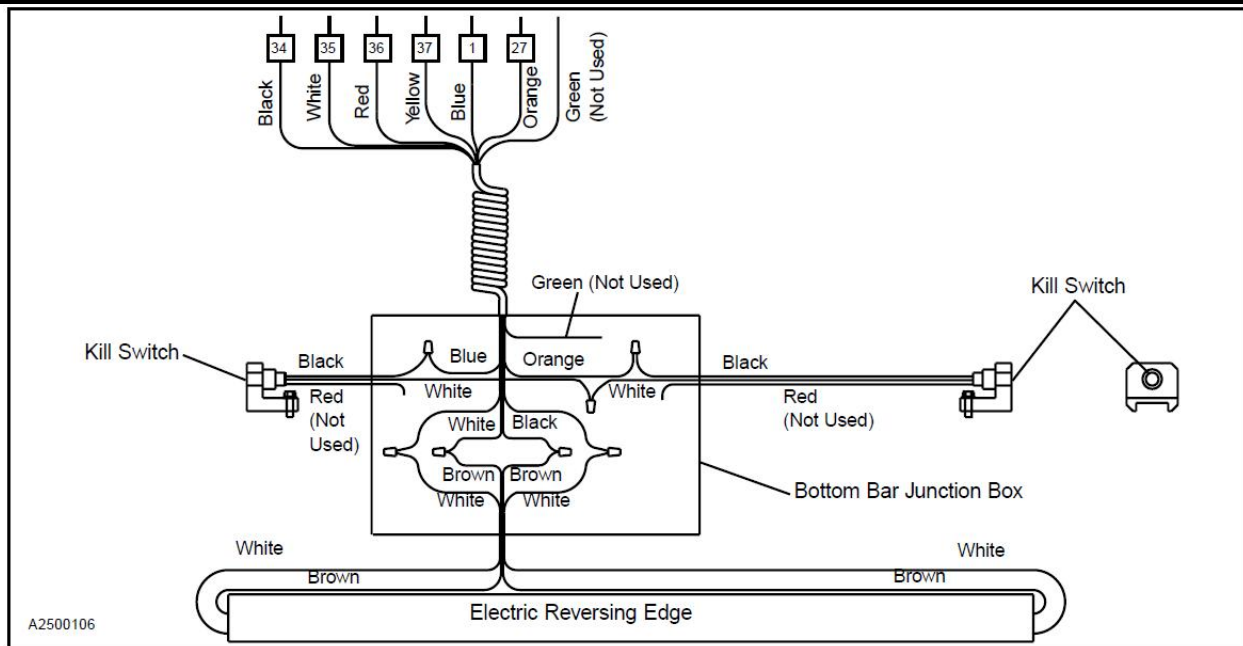

Figure 4
8. Connect the new coil cord to the J-box in the door header. If the door has a pneumatic reversing edge there will be a 4 wire coil cord, electric edges will have a 7 wire coil cord. (See Figures 4 & 5)